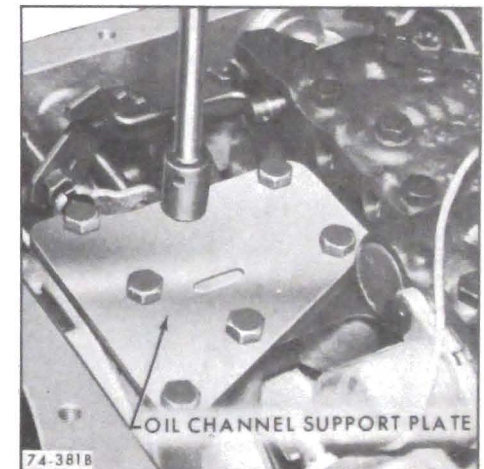

Figure 74-108
4. Remove oil channel support plate. See Figure 74-108.